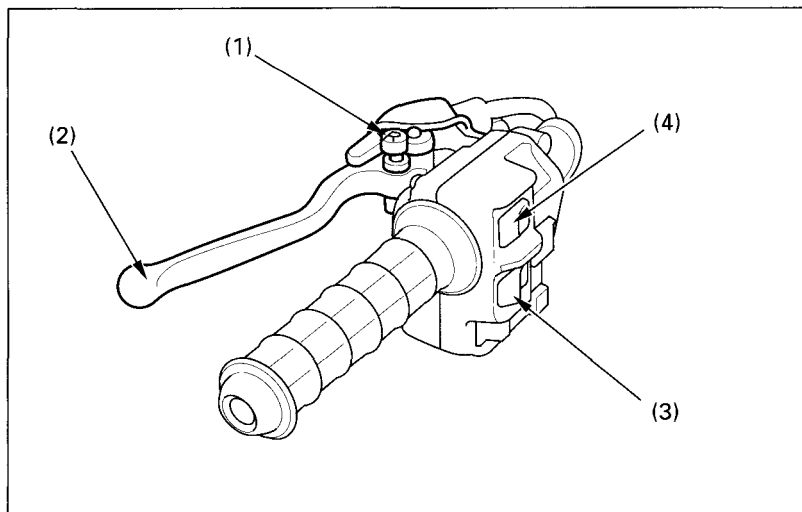

Fig. 2-23 (1) Reverse selector knob (3) Downshift switch
The reverse selector knob (Fig. 2-23) (1) is on the rear brake lever.